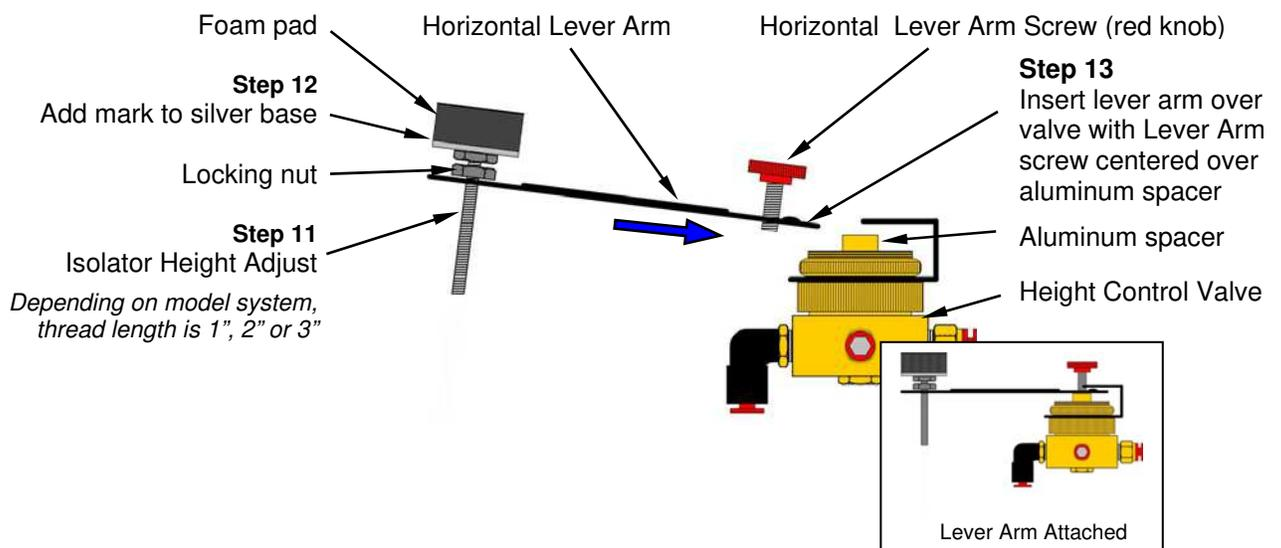

Figure 6 Attaching Horizontal Lever Arm
- Step 14** Loosely fasten *horizontal lever arm* with **HORIZONTAL LEVER ARM SCREW** (red knob) and adjust to position arm horizontally with valve as referenced in figure 6 insert.